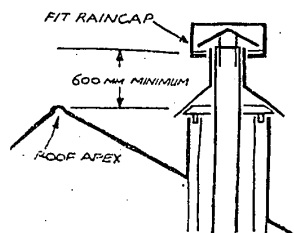

FIGURE 21
2.1.10 The Flashing Cone is fitted to the top of the flue to rest on the flue and Flashing Cone. The Flashing Cone is 600 mm above the roof level. The Flashing Cone is slipped into place inside the Heat Shield, Figure 21. The Flashing Cone is fastened to the top flue section by a firm sliding fit. If it is slightly loose, it can be tightened slightly to obtain the required fit.
2.1.10 The Flashing Cone can now be placed over the top of the flue to rest on the Spider. If the top of the flue and Flashing Cone are level, and at least 600 mm above the roof ridge, the Raincap may be slipped into place inside the flue to complete the installation, Figure 21. The Raincap should not be fastened to the top flue section, although it should be a firm sliding fit. If it is loose, distort the flue slightly to obtain the required fit.
2.2.2 The Flashing Cone and Spider may now be installed on top of the Heat Shield as in 2.1.9. If the flue protrudes above the Flashing Cone, up to 300 mm of the flue may be trimmed off to bring the top of the flue and Flashing Cone level. When more than 300 mm of the flue protrudes above the Flashing Cone, a Weather Sleeve must be added, Figure 21, with swaged end uppermost. The bottom end of this sleeve should be trimmed so that the top is level with the top of the flue.